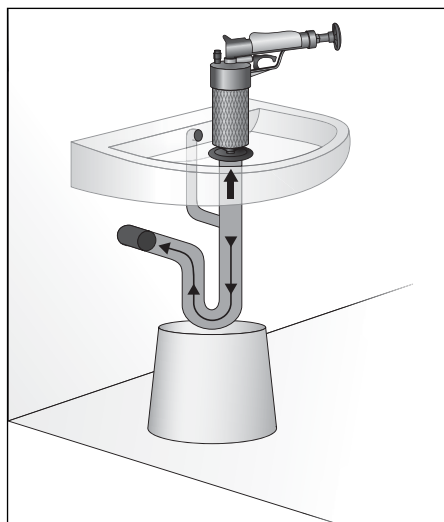

Fig. 6
6. Remove the stopper and place the appliance, as shown in Fig. 6, on the plughole .